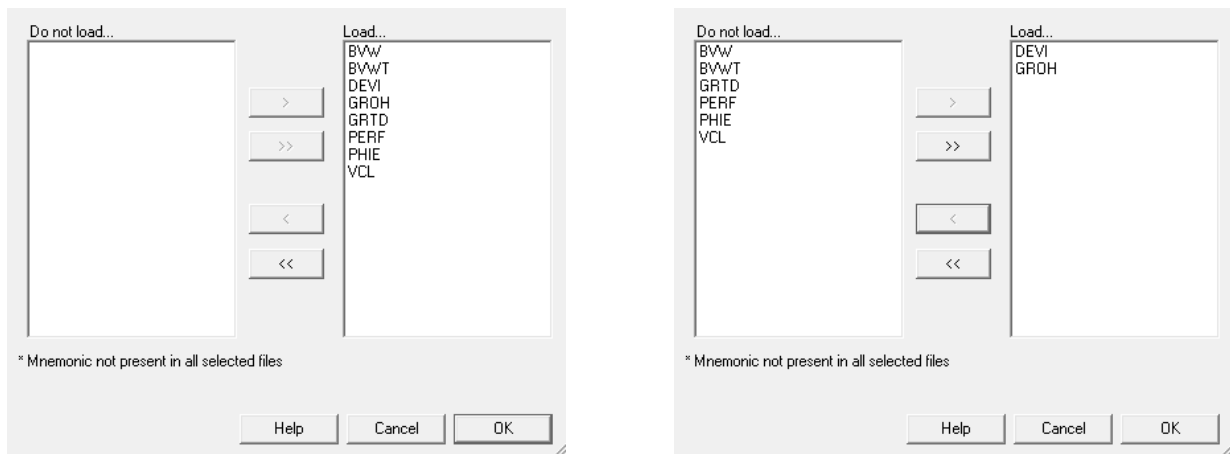

Fig. B02.2 • Filter dialog, before and after mnemonic selections
- > Click on the 'Filter' button at the bottom left of the 'Load' dialog, Fig. B02.2. Use the buttons in the center part of this dialog to load only DEVI and GROH.